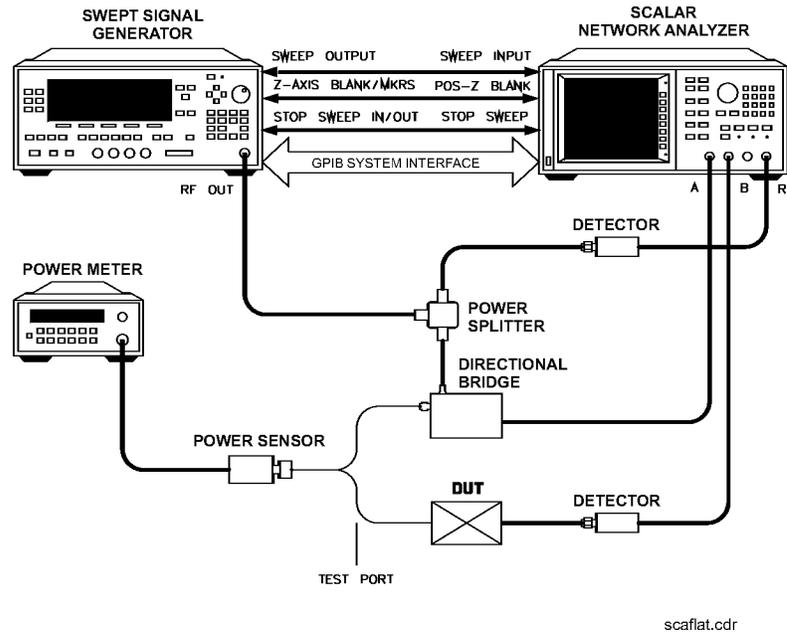

Figure 1-21. Scalar System Configuration
The following example demonstrates how to set up a scalar analysis measurement (using an HP/Agilent 8757 Scalar Network Analyzer) of a 2 to 20 GHz test device such as, an amplifier. User flatness correction is used to compensate for power variations at the test port of a directional bridge. Follow the instructions to set up the swept signal generator, then configure the system as shown in Figure 1-21.
1. The equipment setup shown in Figure 1-21 assumes that you have followed the steps necessary to correctly level the configuration. If you have questions about external leveling, refer to “Externally Leveling the Swept Signal Generator”.